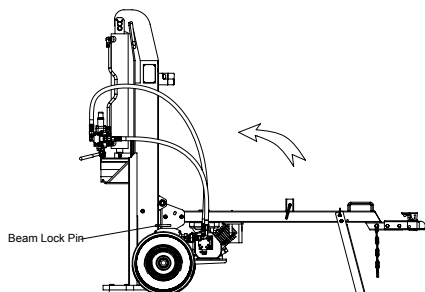

Figure 13
3. Pull rear beam lock pin and rotate to 9:00 o'clock position to secure beam. (See fig. 13)